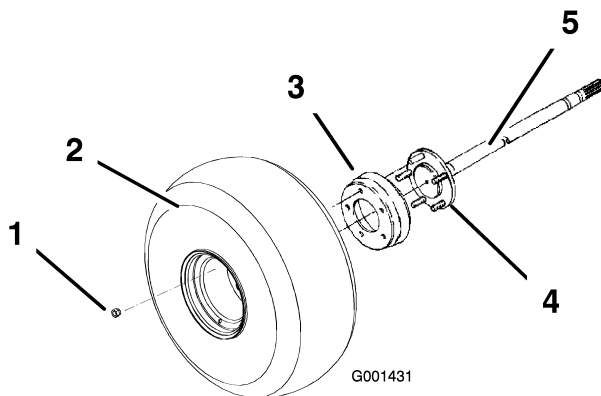

Figure 16
2. Install the tire and wheel assembly. Use the lug nuts removed previously to secure the assembly to the axle (Figure 16).